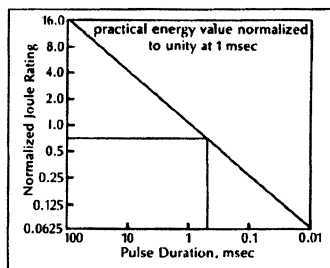

Figure 4
2. Calculate the energy in joules contained in the transient and compare it to the maximum energy rating of the transient suppressor. The energy in the transient, of course, depends on its wave shape, as shown in Figure 3. The amount of energy a given transient suppressor can handle, on the other hand, depends on its energy rating and the duration of the pulse, as shown in Figure 4. In this example, the waveform has an exponential shape with a 20-amp peak current and a 0.5-millisecond half-peak-power point. Using these data, the energy calculations are as follows: